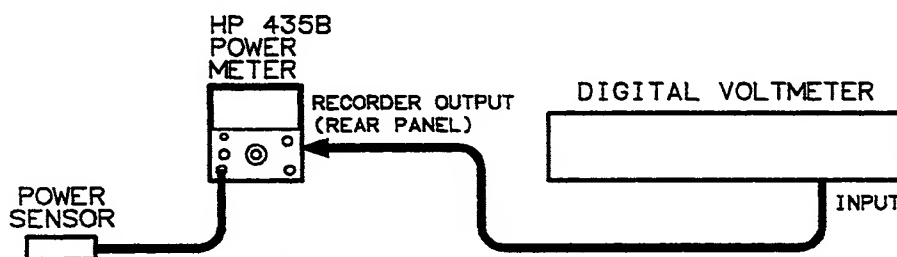

Figure 4-2. Zero Carryover Test Setup
3. Connect the equipment shown in Figure 4-2.